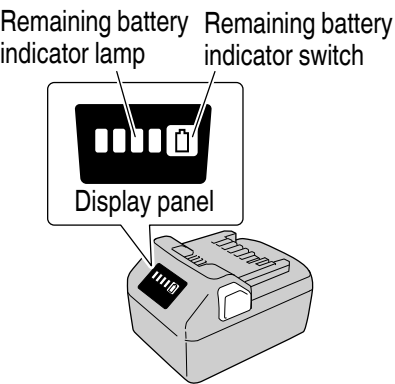

Fig. 18
- You can check the battery's remaining capacity by pressing the remaining battery indicator switch to light the indicator lamp. (**Fig. 18, Table 4**)